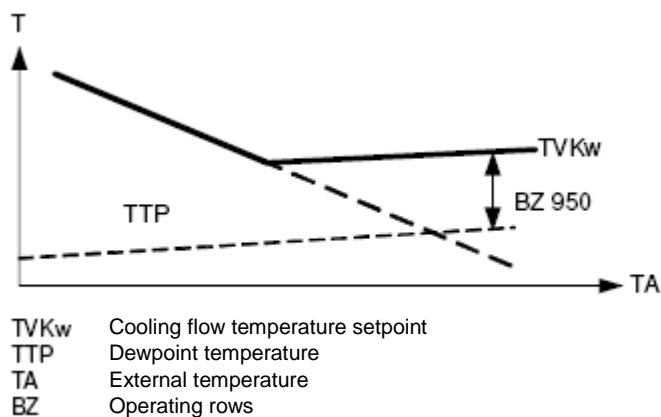

Figure 76 Example of delivery temperature limitation v. relative humidity measured by hygrometer.
14. Parameter "950: Flow temp diff dewpoint"; limits the delivery temperature to prevent condensation forming (the controller calculates the condensation temperature and limits the delivery temperature to that value plus the value given in this parameter as indicated in Figure 76).